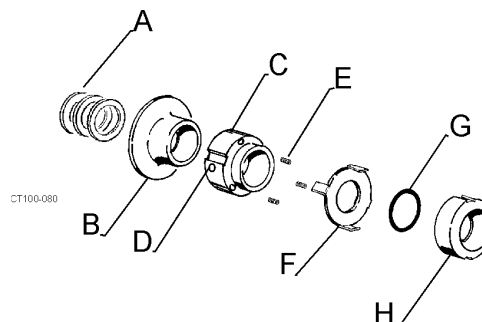

Figure 25 - Type 1 Seal Items
4. Remove deflector. (Figure 25, item B).
5. Loosen set screws (2) (Figure 25, item D) in spring retainer (Figure 25, item C) and slide retainer and washer (Figure 25, item F) off shaft. Save springs (3) (Figure 25, item E).
8. Remove O-ring, then lift rotary seal off shaft. (Figure 25, items G and H).